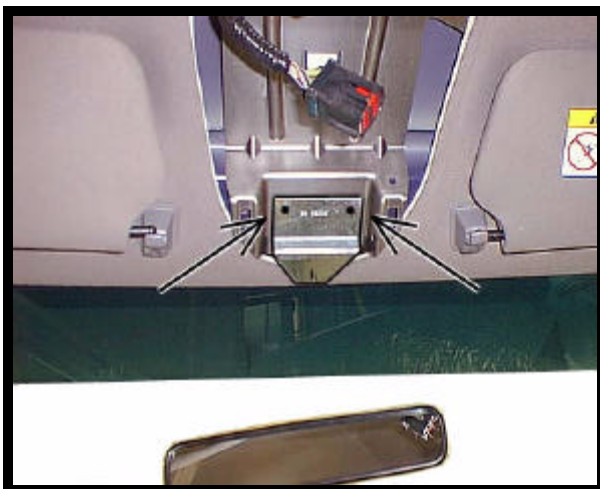

Figure 6
5. Remove and retain two (2) OEM screws located at front of OEM bracket near windshield. Mount front bracket (item 13 pg 2) using OEM holes and OEM screws. See Figure 6.